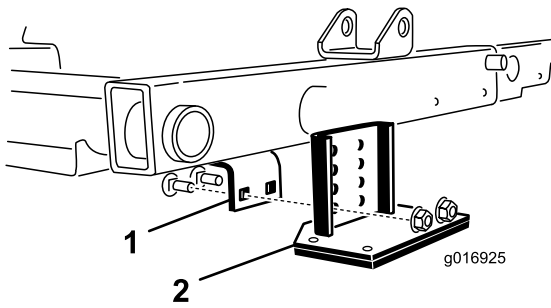

Figure 38
2. Locate the frame bracket above the center cutting unit (Figure 38).
3. While pressing down on the front roller of the center cutting unit, determine which holes on the tipper bracket align with the frame bracket holes to attain the same roller contact when the tipper bracket is installed (Figure 38).
4. Lower the cutting units and mount the tipper bracket to the frame with the 2 carriage bolts and 2 nuts supplied with the kit (Figure 38).